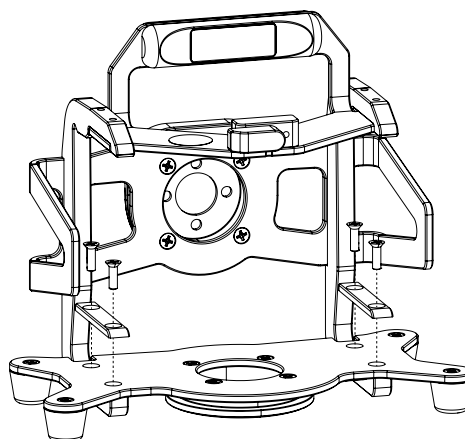

Figure 27: Removing the spacers
2. Remove the four (4) 10-32 X 3/4 in. L flat head screws and two (2) spacers located at the front of the base plate using a Phillips-head screwdriver #2 (Figure 27). Set aside the screws temporarily and store the spacers for a future use.